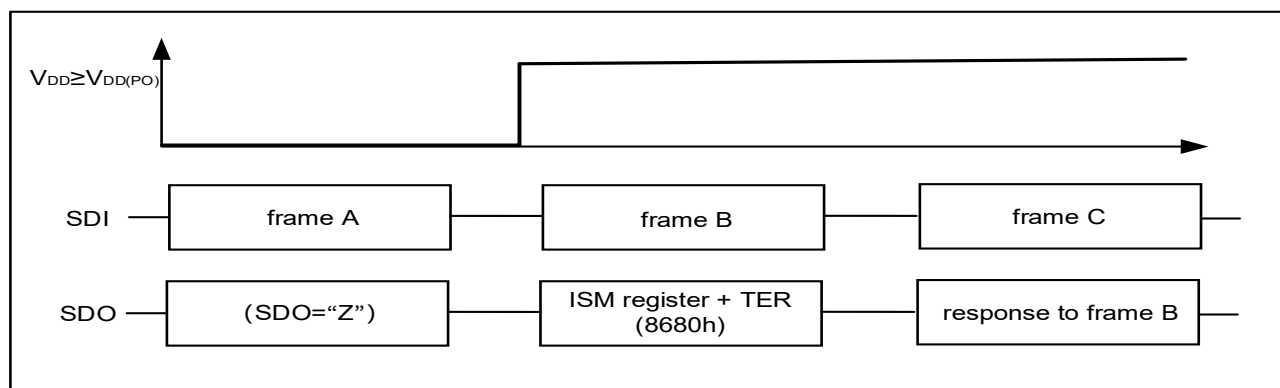

Figure 10.9 NSD56620 response after coming out of Power-On reset at V_{DD}
- When NSD56620 logic supply comes out of Power-On reset condition or after a Software Reset, as shown in **Figure 10.9**